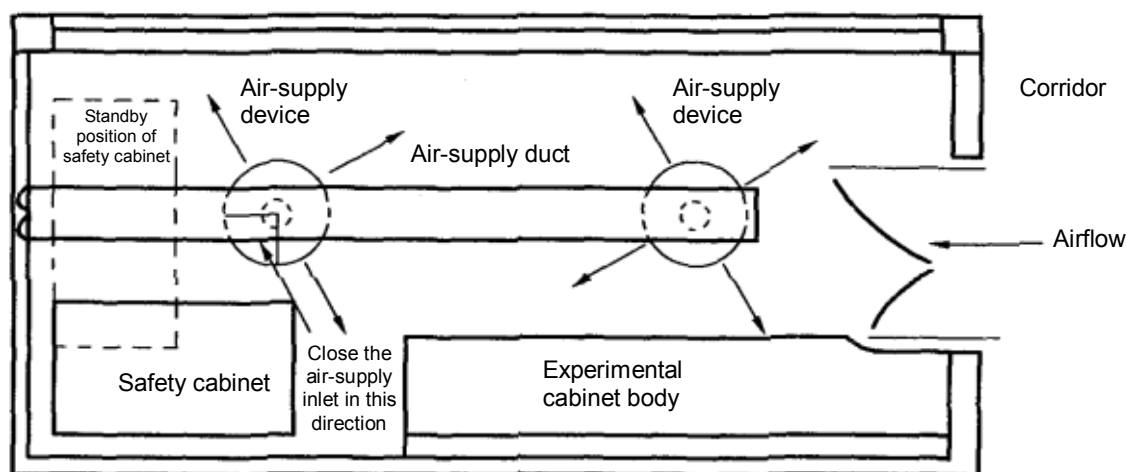

Figure 3 Installation Position of Recommended II-Degree Safety Cabinet in Lab
Please refer to Figure 3 for the reference diagram of II-degree safety cabinet installation position in the lab. Aiming at safety cabinet installation position, the following suggestions are proposed:
1. The safety cabinet shall not be installed in the channel. In case of staying away from it, the room airflow of isolation layer which is derived from working air barrier can be destroyed. The shown contents in Figure 3 are the recommended installation position of safety cabinet after taking all airflow disturbance sources into account.